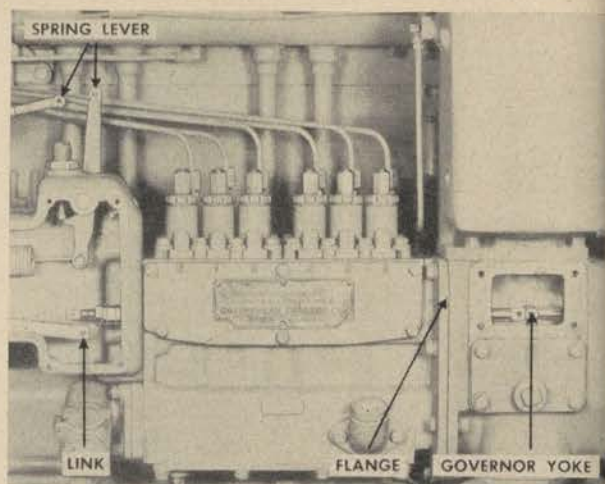

Figure 175. Fuel injection pump housing.
(b) *Removal of injection pump housing* (fig. 175).
2. Remove the covers from the governor spring housing and from the rectangular inspection opening just below the fuel filter housing. Disconnect the fuel injection pump slide bar from the governor yoke (fig. 175) by removing the pin and cotter pin. If the head of the pin is facing "in" toward side of the engine, its removal will be restricted. If this condition is present, loosen the lock nut on the yoke and disconnect the other end of the slide bar from the link. This permits the slide bar to be rotated so that the yoke is turned one-fourth revolution to face the head of the pin up for removal.